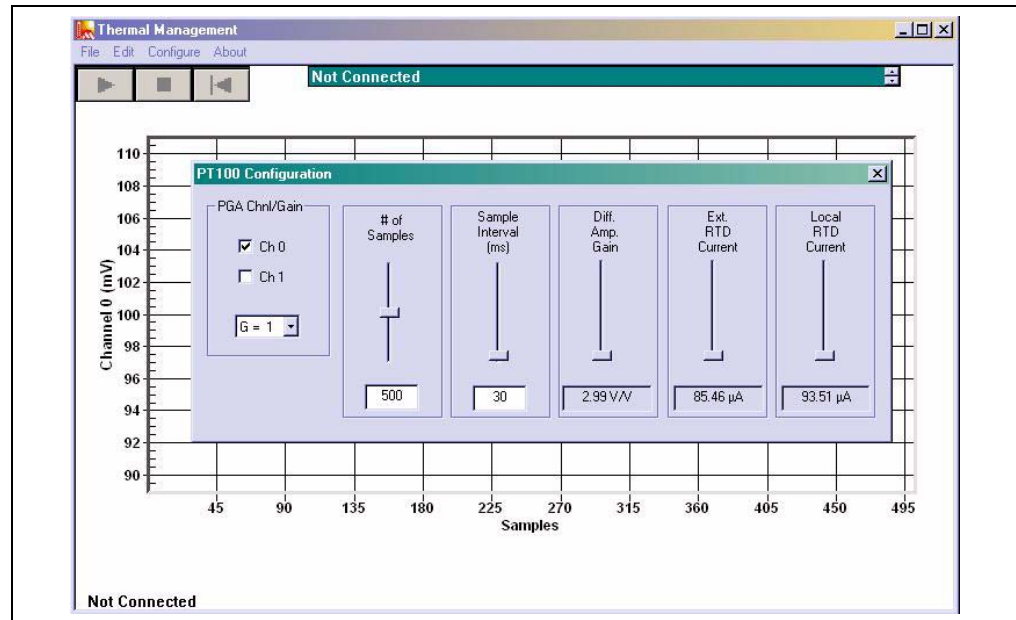
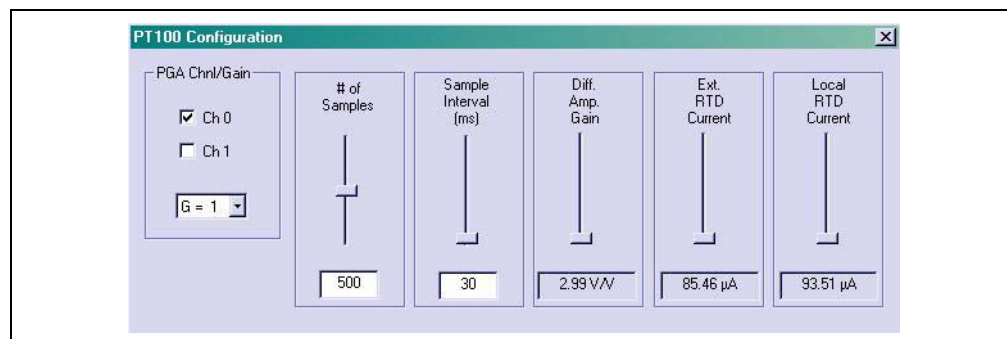

FIGURE 2-3: PC Software GUI.
FIGURE 2-6: Hardware Status
- Updated Figure 2-3 and Figure 2-6.
1. Once the USB connection is secure, start the *PT100RTD ThermalManagement.EXE* file and select **Enable Macro**. When the software starts, the Configuration window will be displayed, as shown in Figure 2-3.